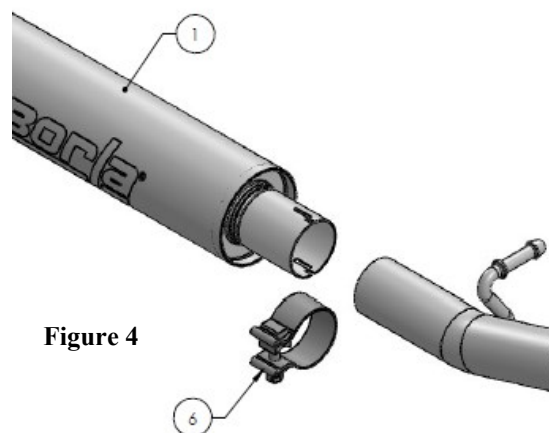

Figure 4
1. Orient clamp to Muffler Assembly inlet and insert Muffler Inlet Pipe as shown. (See Fig. 4) Do not tighten clamp